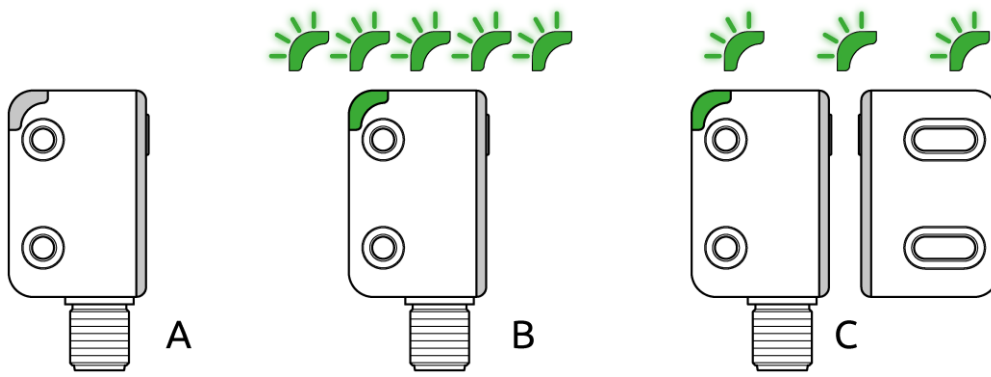

Figure 42 - Teach-in signals
- Power on the R-Safe RFID sensor (Figure 42, condition A).
- After power on, the sensor will be ready for pairing with the actuator (Figure 42, condition B).
- When the actuator is approaching the RFID sensor at a distance $\leq 2\text{mm}$, the sensor is programmed after 5 seconds (Figure 42, condition C).